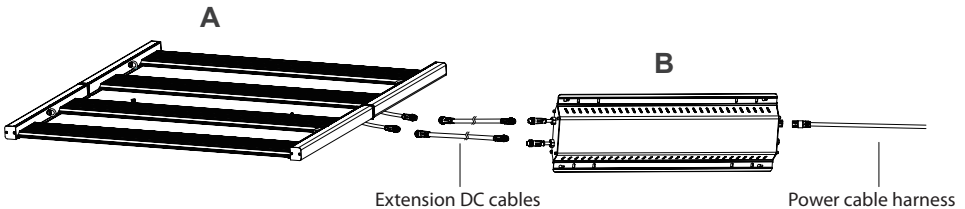

Fig. 14
**Step 3.** Connecting LED light panels to the driver. As Fig. 14, plug in one side of the extension cables to the driver. Plug the other side of the extension cables to the DC connectors of the LED light panels.